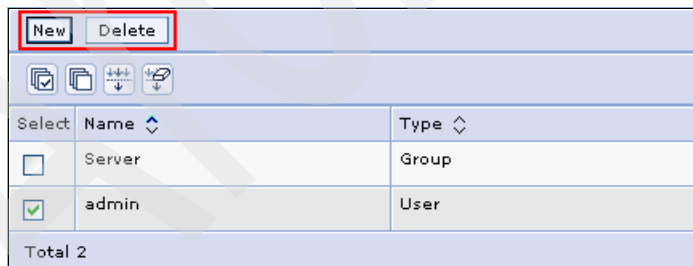

Figure A-91 Configuring the bus connector role for WebSphere Process Server
h. If an admin user exists, select the **admin user** and click the **Delete** button (Figure A-91).